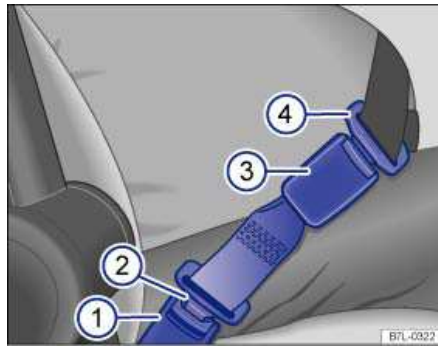

Fig. 70 A safety belt extender properly attached to the factory-installed safety belt.
Key to fig. 70:
- ☐ Insert the buckle tongue on the safety belt extender ⇒ fig. 70 \(2\) into the vehicle belt buckle for the seat where the safety belt extender is being used \(1\).